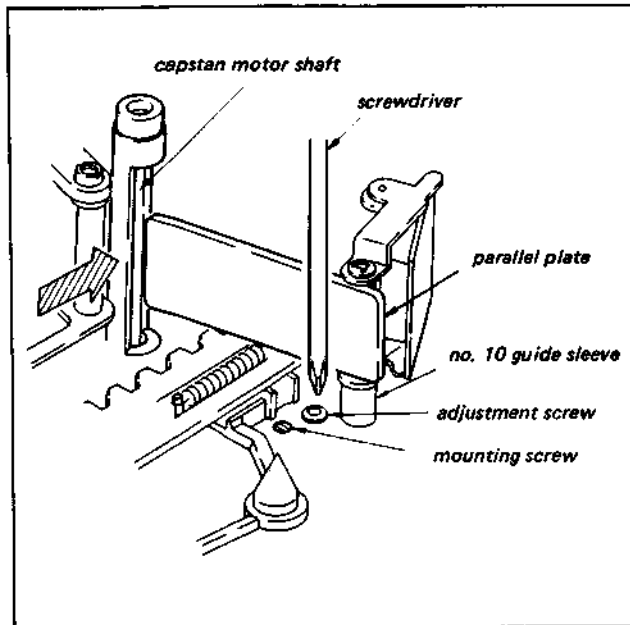

Fig. 4-16.
- 1) Set the parallel plate (SL-0657) up against the No. 10 guide vertically, as shown in Fig. 4-16.